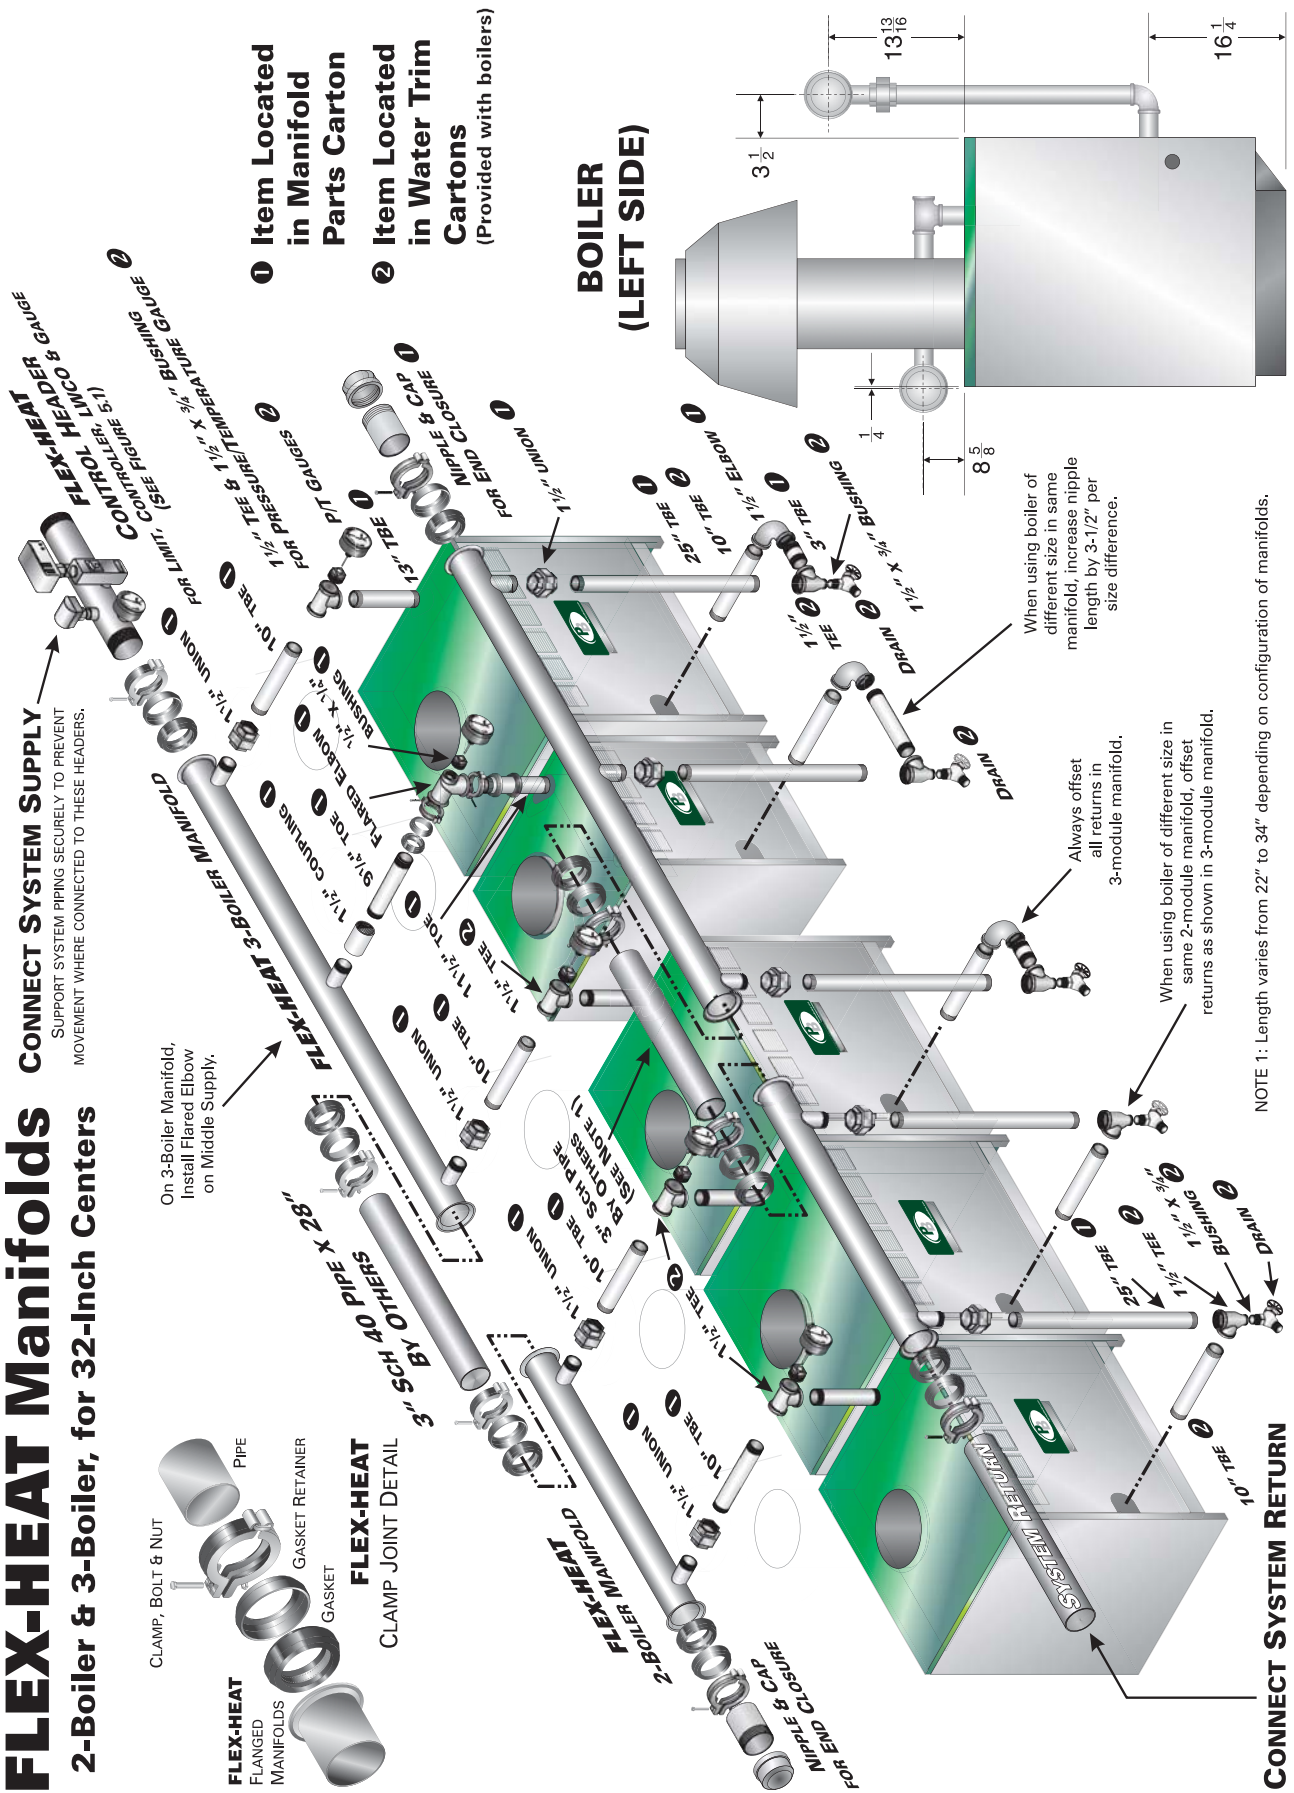
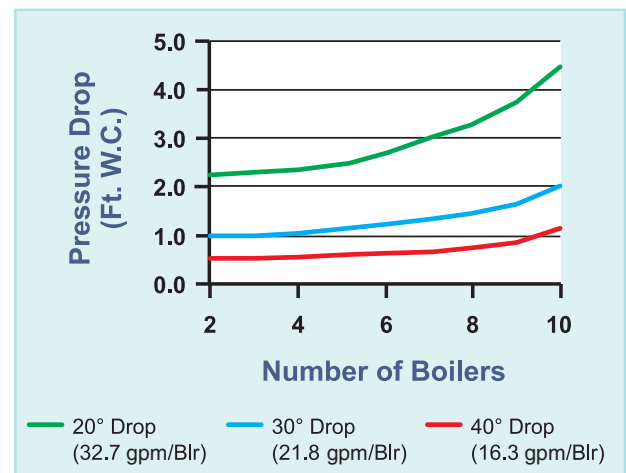

Figure 5.2: Optional FLEX-HEAT® Manifolds
Figure 5.15: Pressure Drop thru Flex-Heat® Manifolds and Boiler Modules
- c) FLEX-HEAT® Manifolds can be connected in series of 2-module and 3-module manifolds to pipe up to 10 boilers modules in parallel (Figure 5.2). If using more than 10 boilers, divide boilers into groups smaller than 10 and pipe the boiler/manifold groups in parallel with each other. See Section E for pressure drops through boiler modules and manifolds.
2. Manifold Joint Detail (Figure 5.2 detail)
2. The pressure drop through the FLEX-HEAT® manifolds and boilers when piped according to Figure 5.2 is shown in Figure 5.15. Do not exceed 10 boilers piped to one FLEX-HEAT® manifold system.